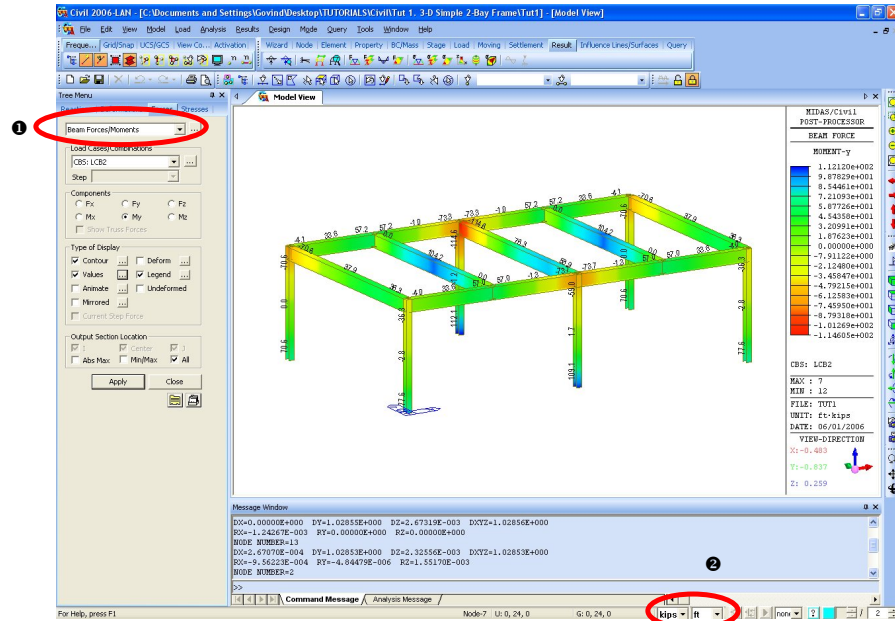

Figure 1.31 Member Forces Contour Lines
1. Click the unit selection button  of Fig.1.31–② and select “ft”.
3. Select **Forces** from the functions tab (Fig.1.31–①).